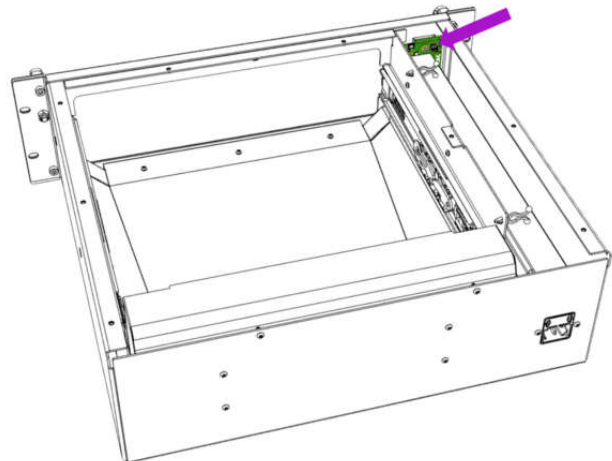

Fig. 7
3. The micro-USB port is located on the electronic circuit board behind the display (Fig. 7).